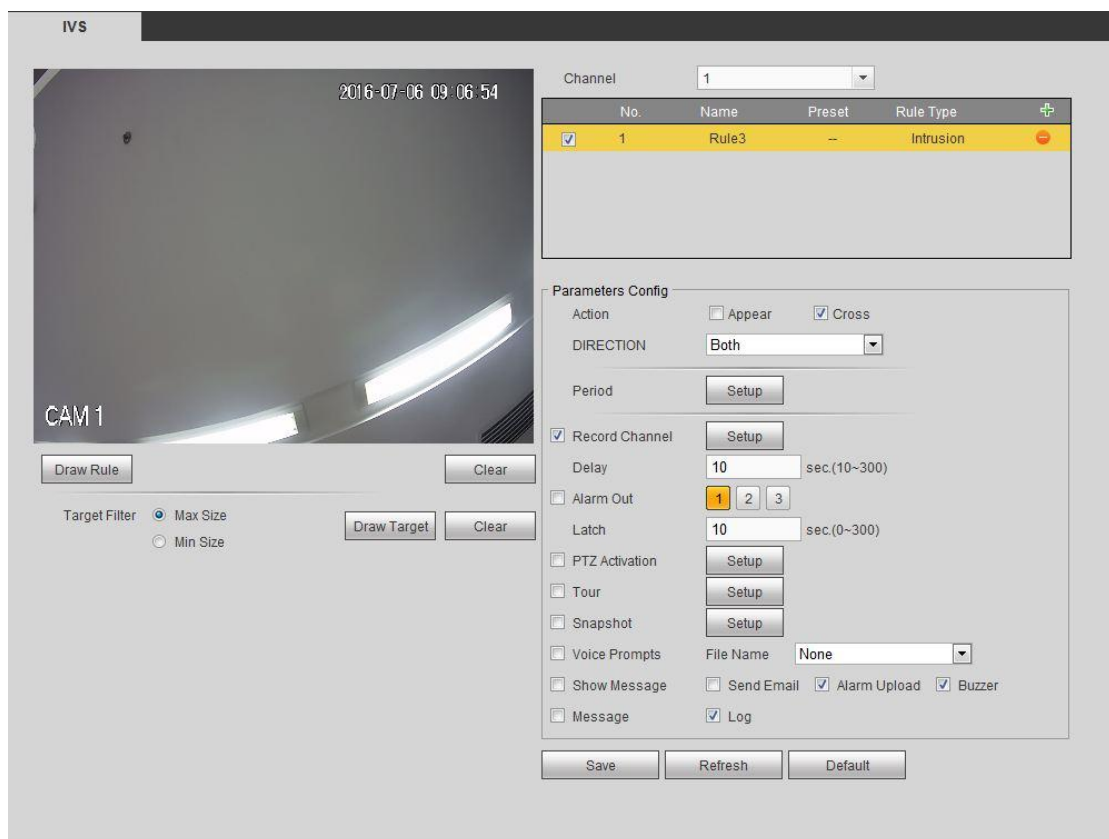

Figure 4-75
Step 2 Check the box to enable Intrusion function. See Figure 4-75.